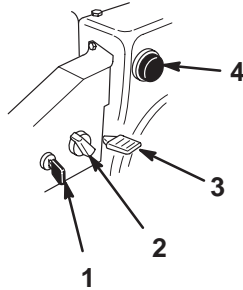

Figure 14
- **Ignition Switch** (Fig. 14)—Insert the key before starting the engine. To stop the engine, remove the key.
- **Choke** (Fig. 14)—Rotate the choke to the **On** position to start a cold engine. As engine warms up, gradually rotate the choke counterclockwise to the **Off** position.
- **Throttle** (Fig. 14)—Move the throttle upward to increase the engine speed; move it downward to decrease the engine speed. Move the throttle to the **Stop** position to stop the engine.
- **Primer** (Fig. 14)—Press the primer to pump a small amount of gasoline into the engine for improved cold-weather starting.
2. Remove the key from the ignition switch (Fig. 14).
3. Pull the choke knob off (Fig. 14).
5. Rotate the choke (Fig. 14) to the **On** position.
6. Insert the ignition key (Fig. 14).
7. Cover the hole in the center of the primer (Fig. 14) with your thumb and slowly push in the primer 3 times, pausing a moment between pushes.
10. After the engine starts, immediately rotate the choke (Fig. 14) to the $3/4$ position. As the engine warms up, rotate the choke to the $1/2$ position. When the engine warms up sufficiently, rotate the choke to the **Off** position.